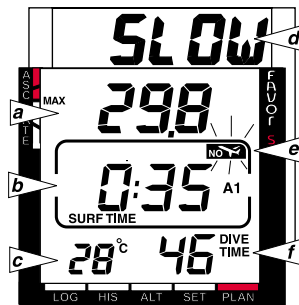

Fig. 3.17 SURFACE MODE AFTER A DIVE, DISPLAY I
If you continue to violate the decompression requirements, the dive computer goes into a permanent ERROR MODE. In this mode (Fig. 3.17) you must not dive again for at least two days. See also Section 3.6, Error Conditions.
Display I (Fig. 3.17)
- The surface time in hours and minutes (separated by a colon), telling the duration of the present surface interval. It is shown above SURF TIME in the center window of the display (Fig. 3.17, b).
- The dive time in minutes, i.e. the total duration of the most recent dive, is displayed next to DIVE TIME in the lower right corner (Fig. 3.17, f).
- The maximum depth of your most recent dive in meters [ft] is shown in the same position as your depth readings during the dive. MAX indicator is then shown in front of the value (Fig. 3.17, a). The SLOW warning will blink over the maximum depth, if you have surfaced with the SLOW warning on (Fig. 3.17, d).
- The temperature in °C [°F] is shown in the lower left corner (Fig. 3.17, c).
- The no-flying warning is indicated by a blinking airplane (Fig. 3.17, e).